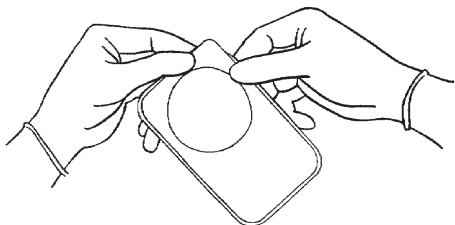

Figure 5
**Step 4: Reseal the InTray** by pressing together the edges of the white label lid against the plastic tray. **Press all around the InTray to assure a complete seal** (Figure 5). **Label the InTray with the patient's name.**